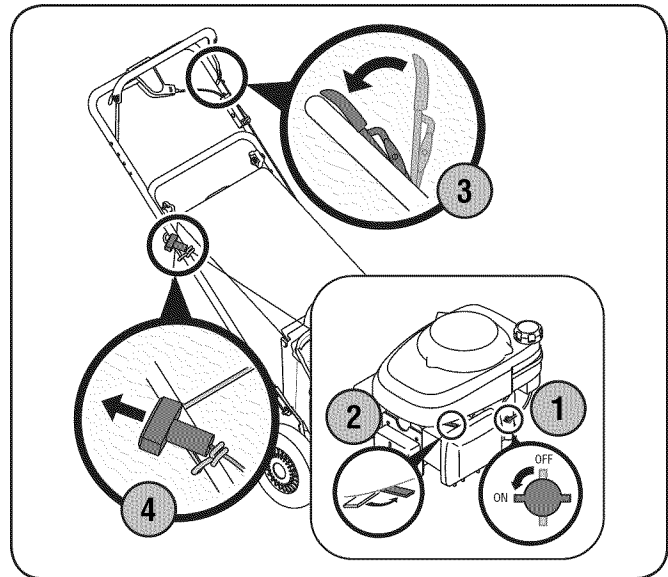

Figure 5-1
1. Place the fuel valve lever (if equipped) found on the left side of the engine into the ON position. See Fig. 5-1.
2. Move the choke lever (if equipped) all the way backward into the choke position. See Fig. 5-1.
3. Standing behind the mower, squeeze the blade control against upper handle. See Fig. 5-1. The choke (if equipped) will now begin to slowly return to the off choke position after activating the blade control. Therefore, quickly move onto step four below. Refer to the engine manual for further details.
4. Holding these two handles together firmly, grasp recoil starter handle and pull rope out with a rapid, continuous, full arm stroke. See Fig. 5-1. Keeping a firm grip on the starter handle, let the rope rewind slowly. Repeat until engine cranks. Let the rope rewind each time slowly.